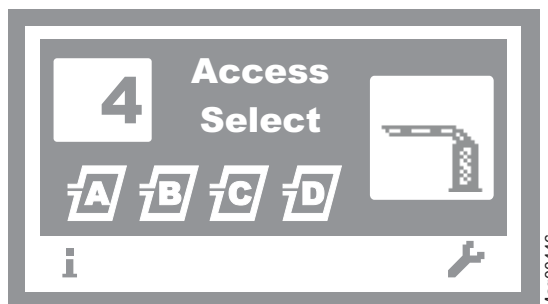

Fig. 1: Example "Operational view"
11. Press the left button  repeatedly until the operating view is displayed again. → Refer to page 18, Fig. 1.